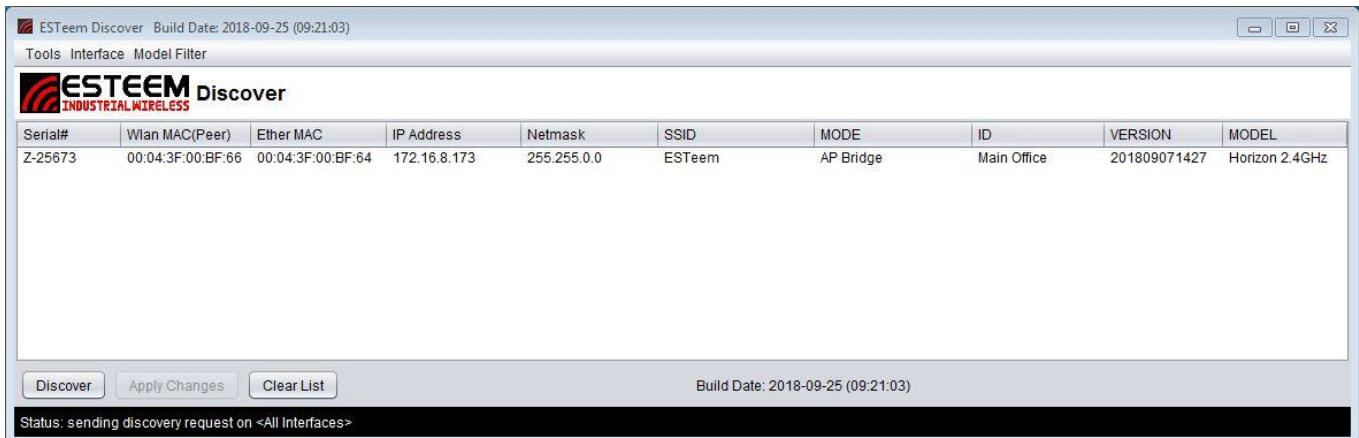

Figure 2: Horizon Found
4. The ESTeem Horizon will be displayed (Figure 2). If the ESTeem Horizon is not on the same IP subnet as the computer, double click on the IP and/or Netmask and make the necessary changes. Press the *Apply Changes* button when complete.